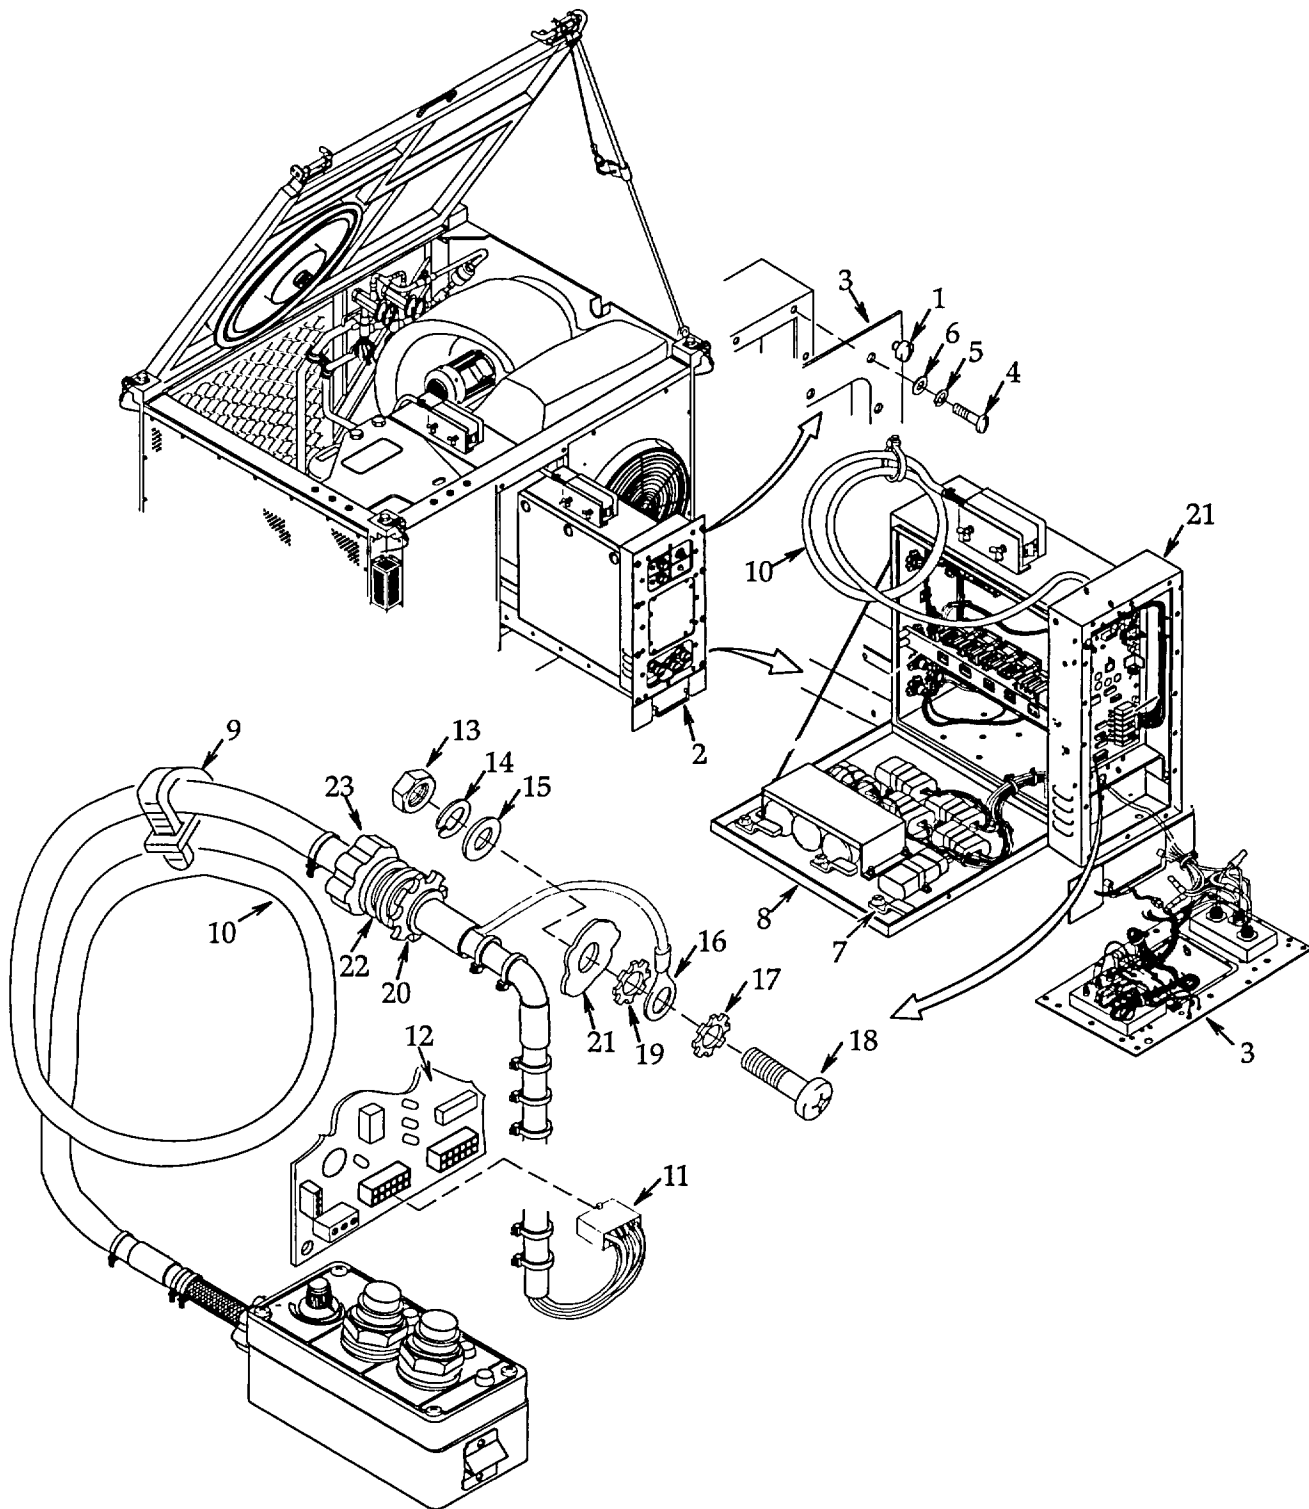

Figure 4-35. Remote Box Assembly.
- a. **Removal.** See figure 4-35.
b. **Installation.** See figure 4-35.
- (1) Install and secure locking nut (20) onto strain relief fitting (23).
- (2) Be sure sealing washer (22) is on strain relief fitting (23) then carefully push cable assembly (10) through control box chassis (21) hole. Carefully bend connector (11) wire leads over so connector can pass through control box chassis hole.
- (3) Loosen and remove locking nut (20) by sliding off end of cable assembly (10). Carefully bend connector (11) wire leads over to remove locking nut.
- (4) Install new lock washer (19), screw (18), new lock washer (17), terminal (16), flat washer (15), new lock washer (14), and secure with nut (13).
- (5) Align connector (11) to mating circuit board (12) connector and push in place until lock engages.
- (6) Secure cable assembly (10) with four tiedown straps (9). Cut to remove excess tiedown strap material.
- (7) Close power box assembly cover (8) and turn three latches (7) to secure.
- (8) Carefully position control box panel (3) in place and align mounting holes. Be sure no wires are pinched. Secure with 16 flat washers (6), new lock washers (5), and screws (4).
- (9) Carefully slide electrical assembly (2) into frame. Be sure no cables or wires are pinched. Secure with eight captive screws (1).
- (10) Lower and secure cover per paragraph 4.2.